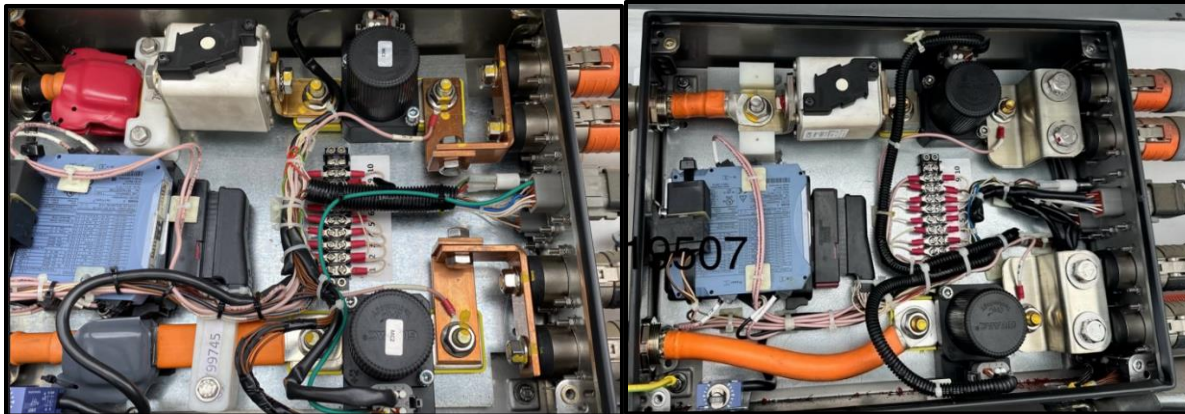

Figure 3 - Box 772719 rev A vs rev C
2.4. There will be two configurations for box 772719 as per Figure 3. We will be focusing on the latest revision since the instructions are similar.